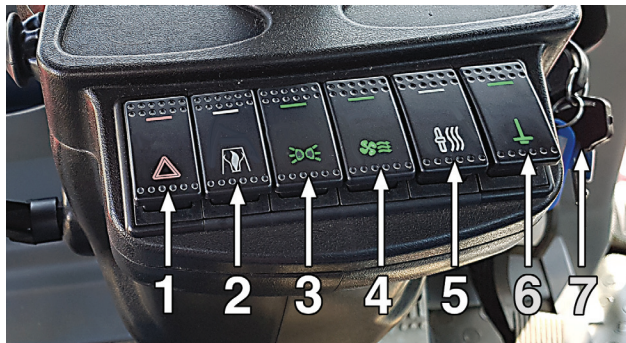

Fig. 83
2. Turn on the ground switch (6) - Fig. 83, page 107 .
4. Meet the requirements set forth in item 6.8.3 of subsection 6.8.